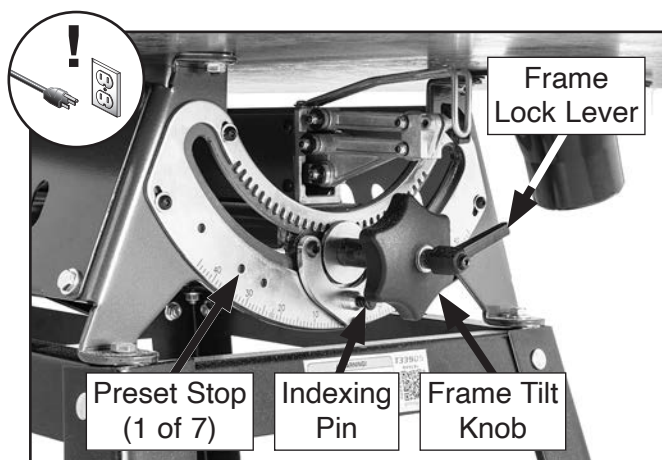

Figure 16. Location of preset stop controls.
2. Loosen frame lock lever (see **Figure 16**).